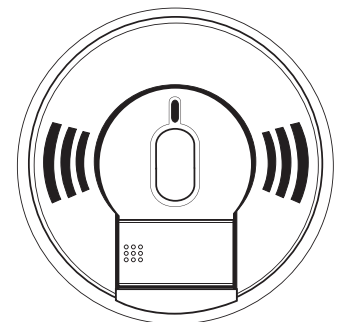

FIGURE 5
⚠ CAUTION: WHEN WALL MOUNTING: UNIT MUST BE MOUNTED SO THAT THE BATTERY BOX FACES DOWN! (SEE FIGURE 5). INCORRECT ORIENTATION OF WALL MOUNTED SMOKE ALARMS WILL DECREASE OPERATIONAL EFFECTIVENESS.
5. Install the alarm on the mounting bracket and rotate the alarm clockwise until the alarm ratchets into place (this ratcheting function allows for aesthetic alignment). NOTE: The alarm will mount to the bracket in 4 positions (every 90 degrees). When wall mounting, make sure the battery box is at the bottom of the unit. (see Figure 5).